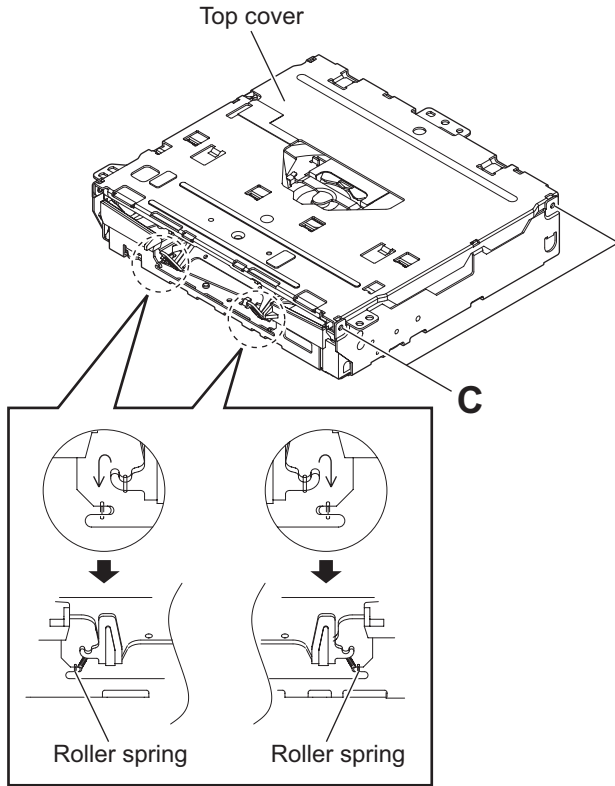

Fig.3
### 3.2.2 Removing the top cover (See Fig.3 to 5)
- (1) From the front side of the CD MECHANISM assembly, change the hook position of the two roller springs. (See Fig.3.)
- (2) From the side of the CD MECHANISM assembly, remove the six screws **C** attaching the top cover. (See Fig.3 and 4.)